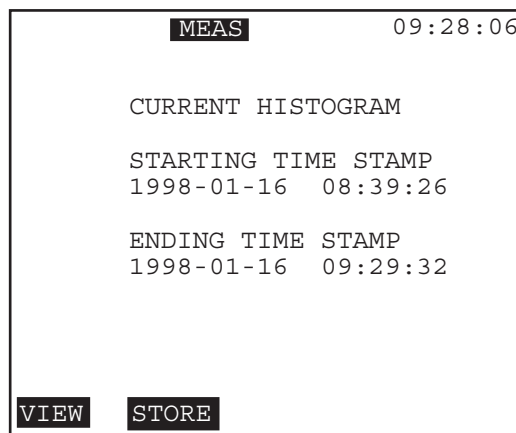

Figure 48 Current Histogram Menu
- The Current Histogram start and stop date and time will be displayed, as depicted in Figure 48.